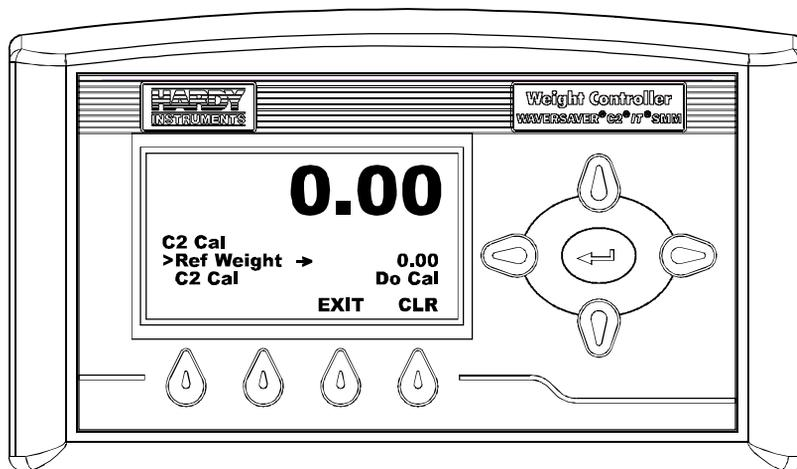

FIG. 307 C2 CAL MENU/SELECTING REF WEIGHT
Step 4. Press the Down Arrow button until the cursor is in front of Ref Weight (Reference Weight). (See Fig. 307)